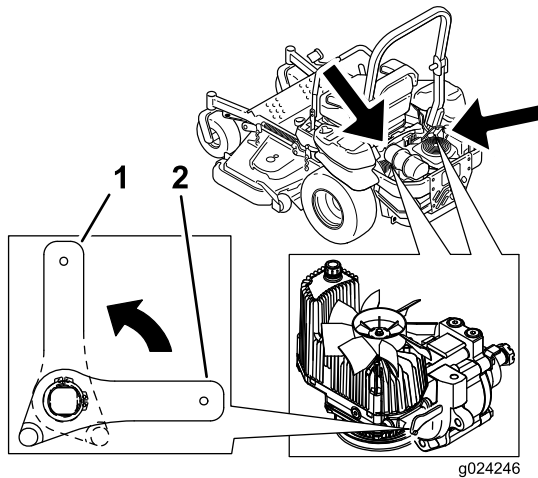

Figure 40
3. Rotate the release-valve levers vertically to push the machine (Figure 40).
5. Rotate the release valve levers horizontally to run the machine (Figure 40).